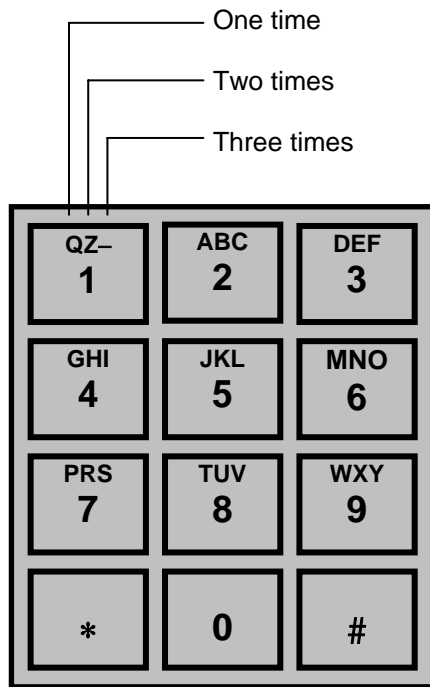

Figure 3.1 Keypad Layout
Step 4 Enter the tenant name using the Telephone Entry keypad and press # # to accept the entry. The keypad does not have alphabetical letters, see figure 3.1 for your reference.